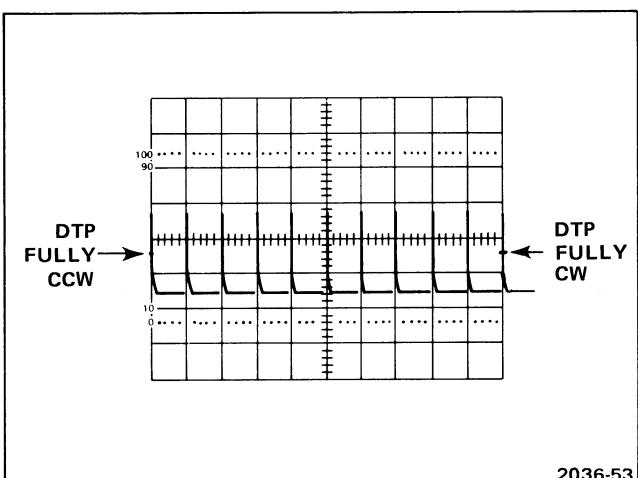

Fig. 6-6. Sweep start and stop adjustment (475).
e. **ADJUST**—Sweep start (R938) to position the intensified zone to the vertical center of the trailing edge of the first time marker (see Figure 6-6).
- g. **ADJUST**—Sweep stop (R936) to position the intensified zone to the vertical center of the trailing edge of the eleventh time marker (see Figure 6-6).